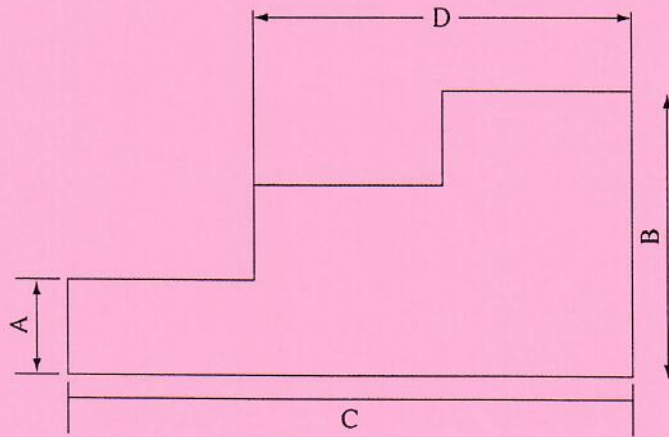

Figure 2 Dimensioning of a step block
- b) Which distance of the step block in Figure 2 is correctly dimensioned? [2 marks]